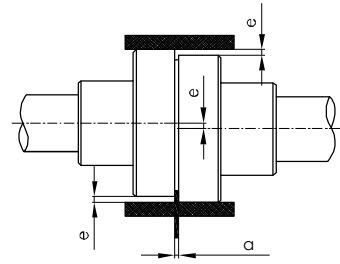

Fig 5. Aligning a flexible coupling
- A metal part (steel ruler or gauge, etc.) and a precise caliper are required to perform coupling adjustment (special equipment should be used for very fine and precise adjustment). Axial run-out of the coupling (see Figure 5) should not exceed 0.1 mm.